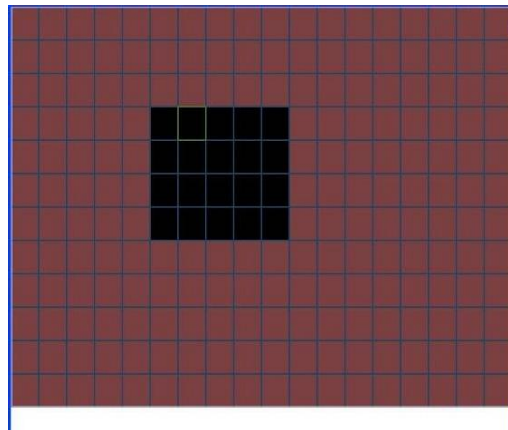

Figure 4-15
- Region: Click select button and the interface is shown in Figure 4-15. Here you can set a motion detection zone. There are 396(PAL)/330(NTSC) small zones.
In Figure 4-15, you can left click mouse and then drag it to set a region for motion detection. Click Fn to switch between arm/withdraw motion detection. After setting, click enter button to exit.